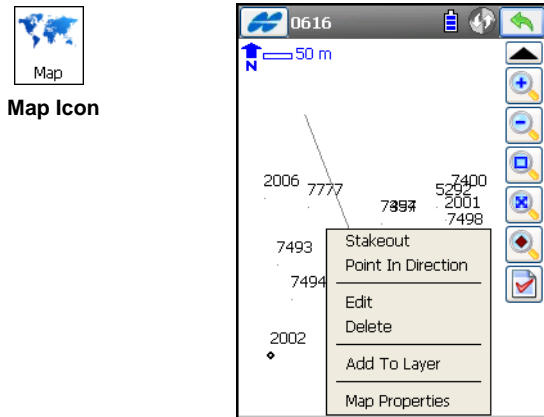

Figure 6-35. Editing from the Main Map
1. When in the Main Map (Figure 6-35), tap the desired object to highlight it. Then hold the stylus on the selected object for a while until a pop-up menu displays. The menu options depend on the object selected.